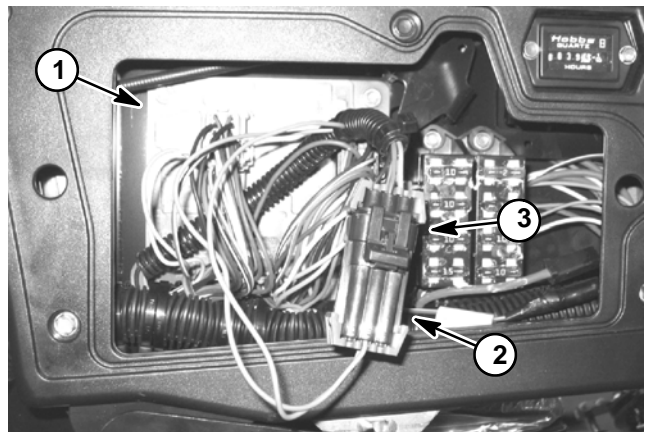

Figure 10
2. Open control panel cover. Locate wire harness and connectors near ECM. Carefully unplug loop back connector from harness connector (Fig. 10).